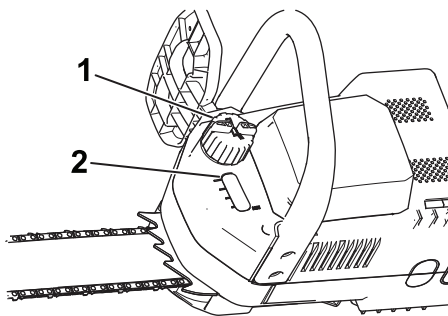

Figure 26
2. Check the oil level in the window. If you cannot see oil in the window, add bar and chain oil to the chain saw (Figure 26).
3. Clean the area around the oil cap (Figure 26).
4. Remove the cap and pour oil into the chain saw until the oil fills the window (Figure 26).